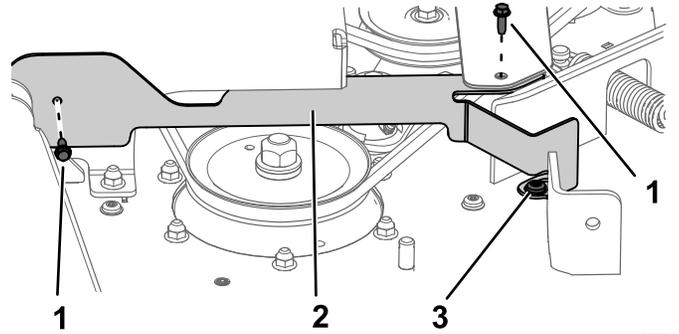

Figure 32
2. On the right side of the machine, remove the washer-head bolts (1/4 x 3/4 inch) and loosen the shoulder bolt (Figure 32). Remove the guard.